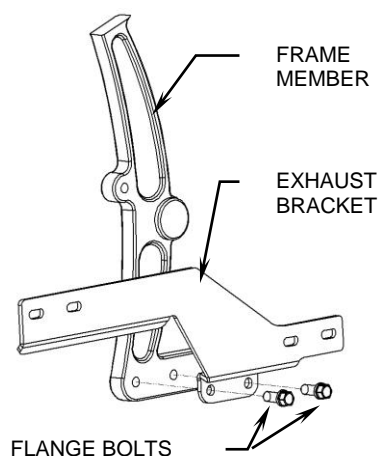

FIGURE 2
6. Place the exhaust mount bracket on the motorcycle and bolt into place using the supplied 3/8" bolts. (See Figure 2.)